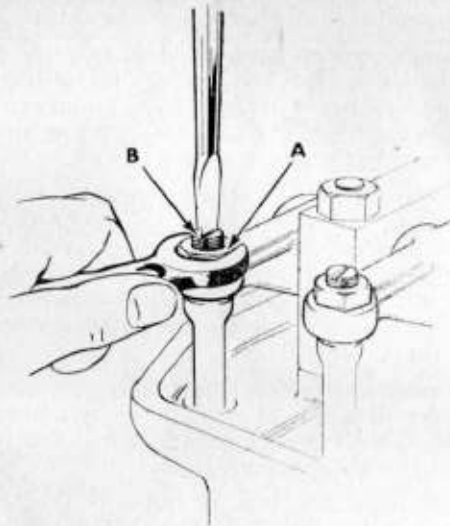

Fig. 3
34. Valve Rocker Adjustment (Fig. 3).
- (b) To adjust the clearance, set the engine with valves closed (Top Dead Centre of firing stroke), loosen the Locknut (A) on the Rocker Adjusting Screw (B) and turn the Rocker Adjusting Screw with a screwdriver. The gap may be measured with a standard feeler gauge. When the correct setting is obtained, ensure that the Locknut is again secure.